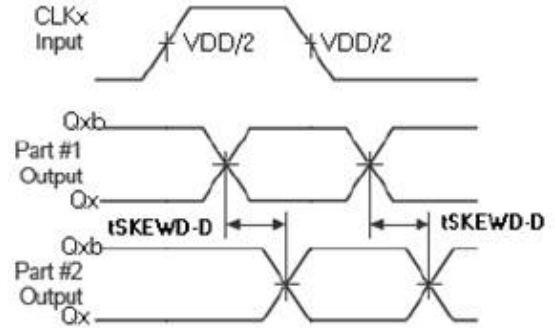

Figure 5. AC Measurement Reference
6. Outputs terminated 50Ω to $V_{CC} - 2.0 \text{ V}$, see Figure 4. Input levels of 0.8 V and 2.4 V unless stated otherwise. Measured from Input Midpoint ($V_{DD}/2$) to differential Output crosspoints, see Figure 5.